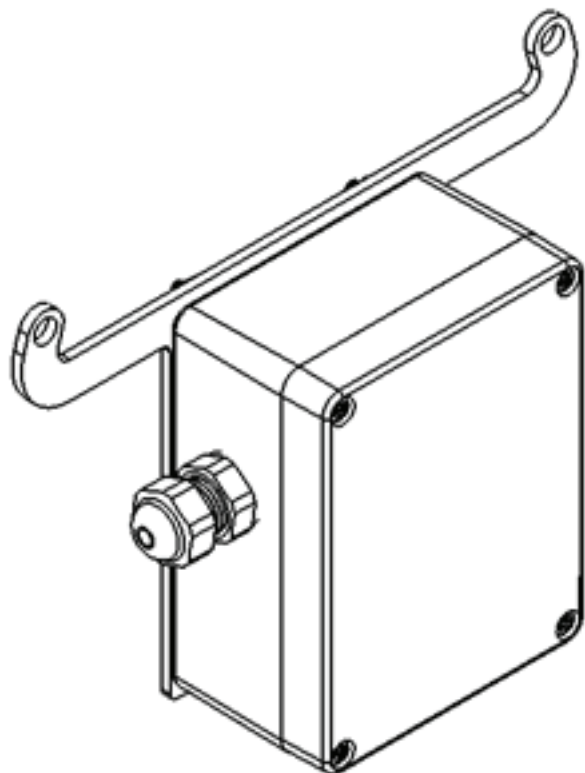

Figure 9: Pre-assembled V2 Intelli-Connect Kit
*Figure 9* shows the V2 pre-assembled contents of the Intelli-Connect hardware kit (same as the V1 kit but with a different mounting bracket).
5. Run the ethernet cable down the side of the hoist, alongside the existing wiring harness, to plug the ethernet cable into the VFD ethernet port. Bring the assembled Intelli-Connect kit box/bracket from **Figure 9** close enough to the hoist to plug the ethernet cord into the VFD. Follow **Figure 14** for the cable routing inside the hoist as well as the optimal position of the RJ45 to guide it through the wireway as shown in **Figure 15**.